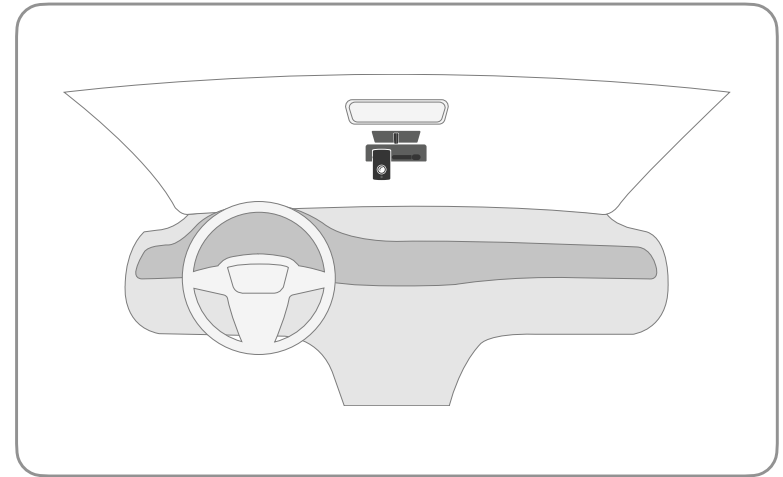

Fig. 1 Center Mount
- Desired installation location is in the center of the windshield directly under the rear-view mirror (see figure 1 for reference).